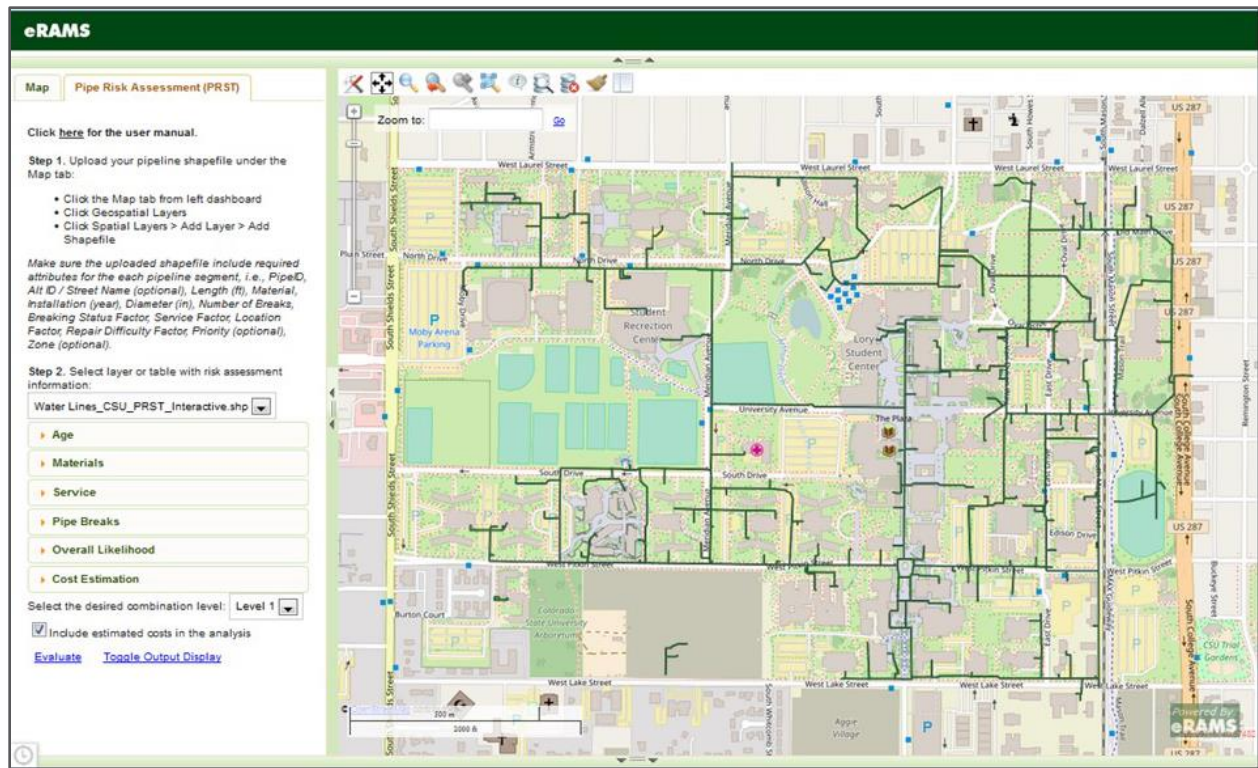

Figure 3: Example of Colorado State University pipe system
- a. An example of the pipe system for Colorado State University is shown below (Figure 3)